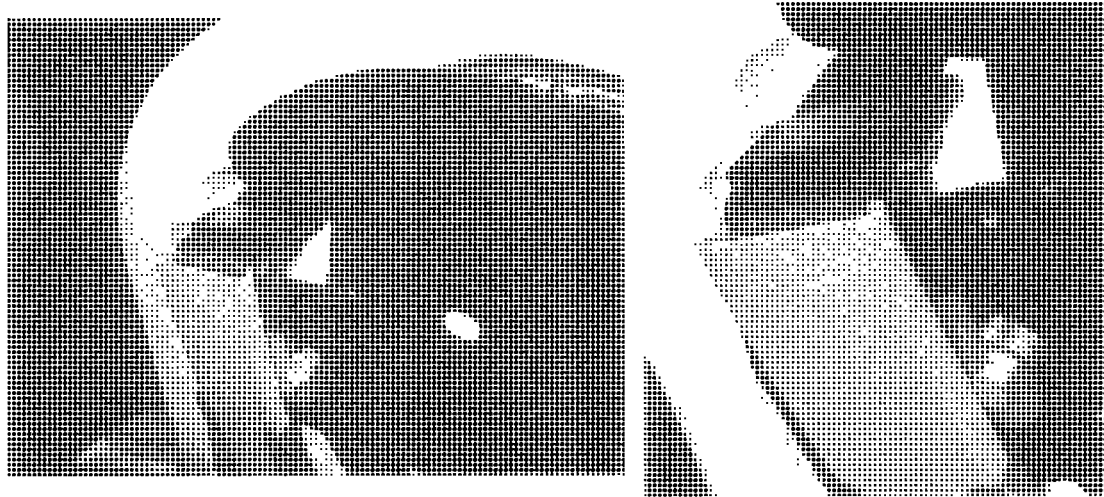

FIGURE 8. Seat Belt Channel and Guide (Grey Foam Removed for Clarity)
5. Starting at the upper back of the seat back, *carefully* pull the grey foam away from the left side of the seat back just enough to expose the top of the seat belt channel on the rear of the seat. The grey foam is attached with adhesive. See FIGURE 8.